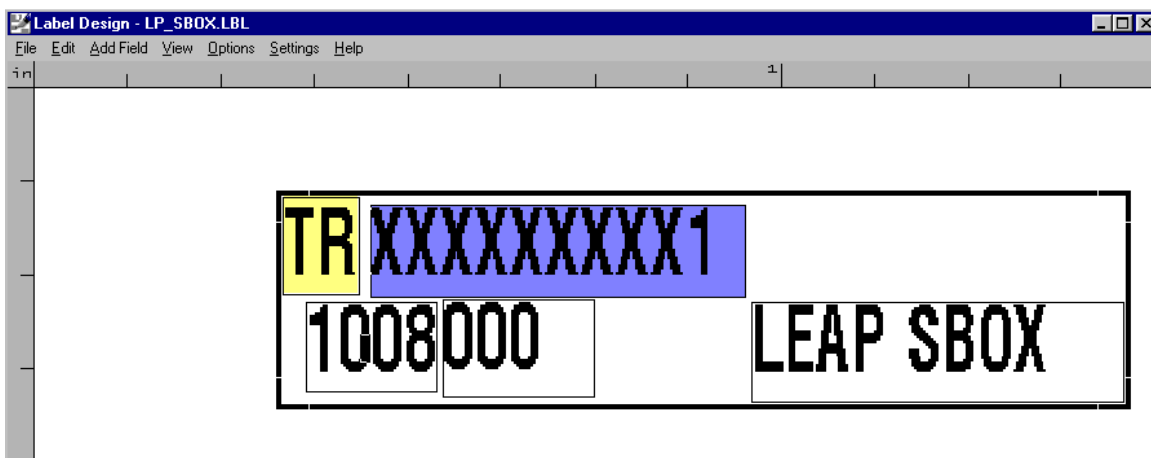

Figure 1-16
1.18.7. Click and drag your cursor from the upper left corner of the label to the lower right corner and then release the mouse button. All the fields on the label will be selected (enclosed in thin-lined boxes) and a large box will enclose them all. Note that the yellow and blue fields are no longer overlapping. (Figure 1-16)